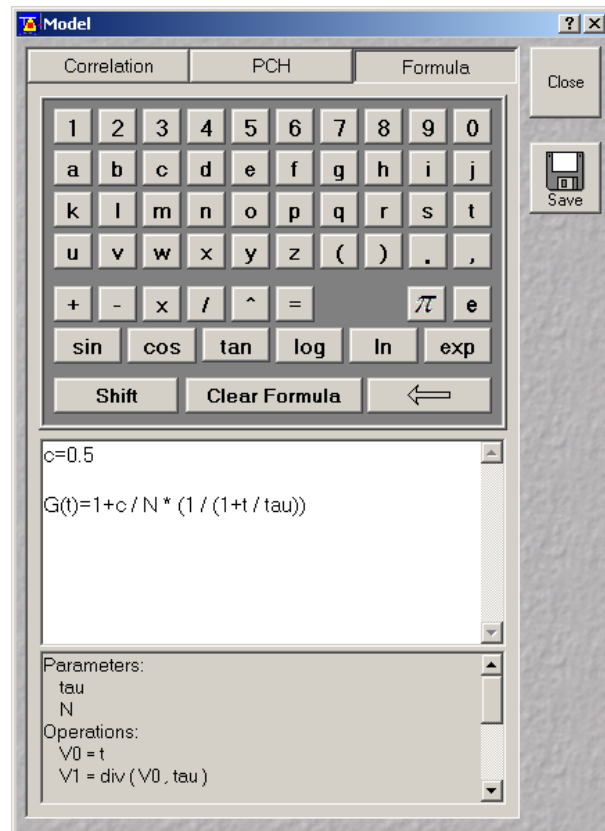

Fig. 4-83 Model window, Formula
- Press the **Formula** button for the user defined model options (see Fig. 4-83).